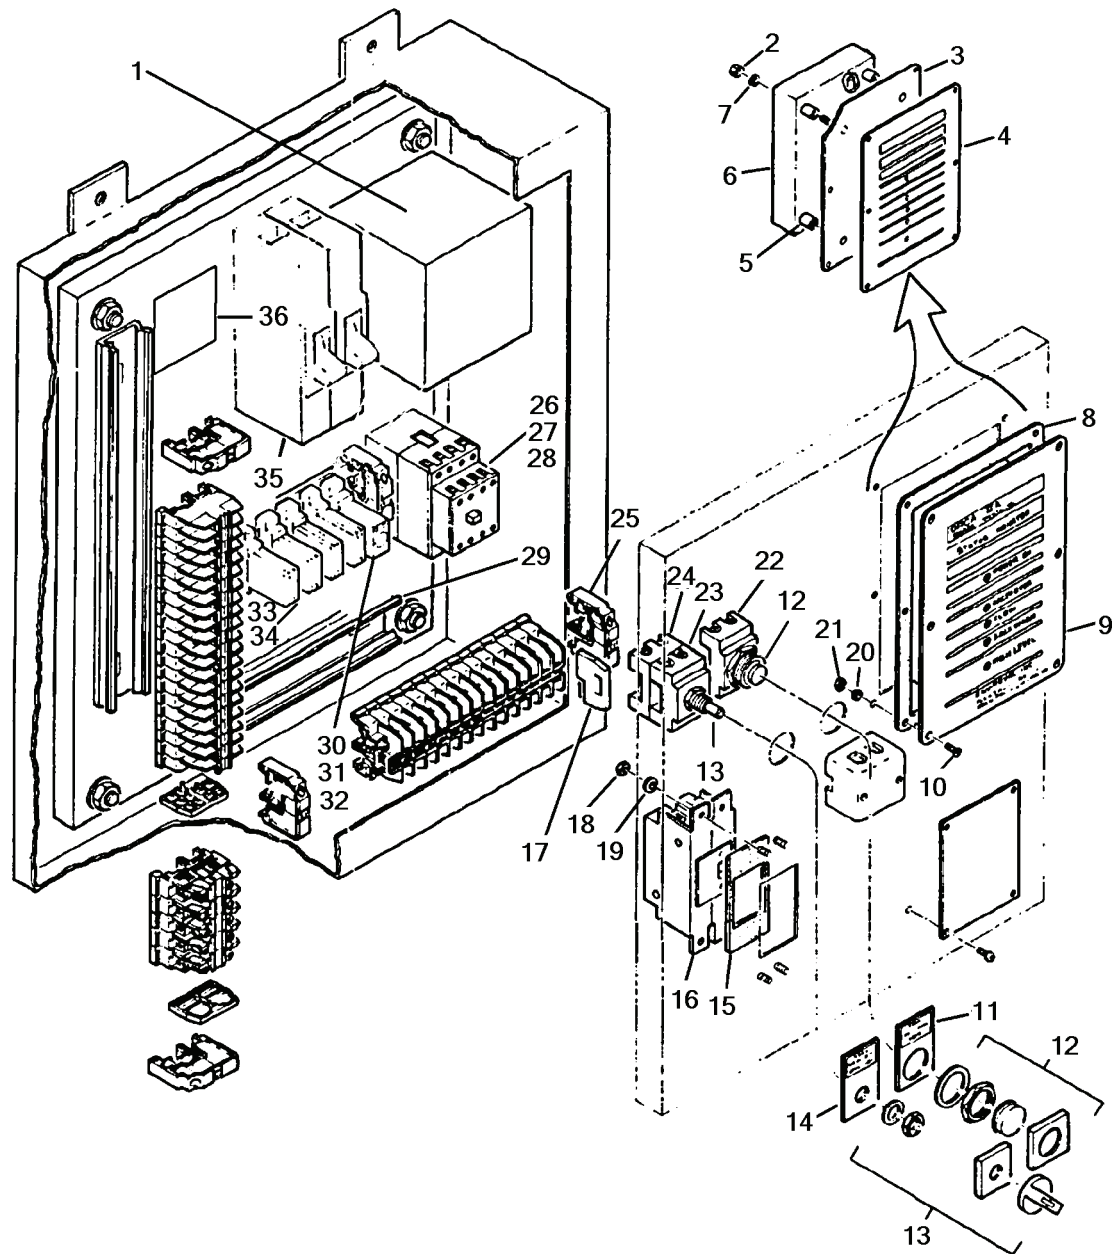

Figure 2-12. Control Panel and Module.
- a. Repair of the Control Panel and Module (Figure 2-12) is by replacement of the following components:
- (1) Repeat Cycle Timer (36).
- (2) Circuit Breaker (35).
- (3) Transformer (1).
- (4) Electronic Control Panel Circuit Board (9).
- (5) Push Switch (12).
- (6) Instruction Plate (11).
- (7) Control Circuit Block (22, 23, 24).
- (8) Rotary Switch (13).
- (9) Instruction Plate (14).
- (10) Magnetic Contactor (26).
To replace Control Panel and Module components (Figure 2-12) proceed as follows: